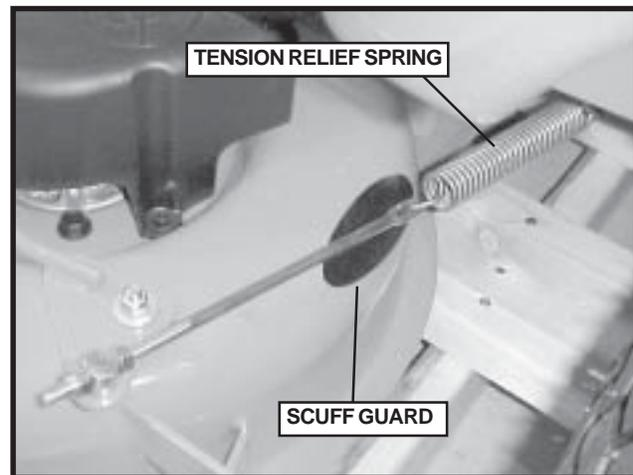

FIGURE 22
12. Align scuff guard on deck to keep the tension relief spring from rubbing on the mower deck. See Figure 22.